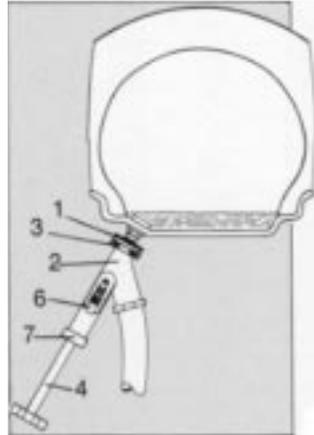

FIGURE 1
The following connections should be made when the pump is not running and with control handle in the vertical or check position: To connect liquid fill core ejector to 2 piece style rear tractor valves TR-218A, TR-618A, (figure 1), unscrew union (1) from core ejector body (2) screw on valve stem finger tight. Screw core ejector body on union (1) making sure rubber gasket (3) is in place, with handle (4) of core ejector pulled out. Push handle (4) of core ejector in until it makes contact with the core housing of the valve, then hold the core ejector in left hand, strike the handle (4) with the right hand to force the core housing in ejector chuck (6). Turn handle (4) to the left to unscrew the core housing, pushing inward lightly so you can feel the threads disengage when completely unscrewed. Then pull handle (4) out as far as it will go to retract core housing into ejector body. The handle will pull out easier if rotated while pulling, as packing nut (7) should be tight enough to prevent air or liquid leaks.